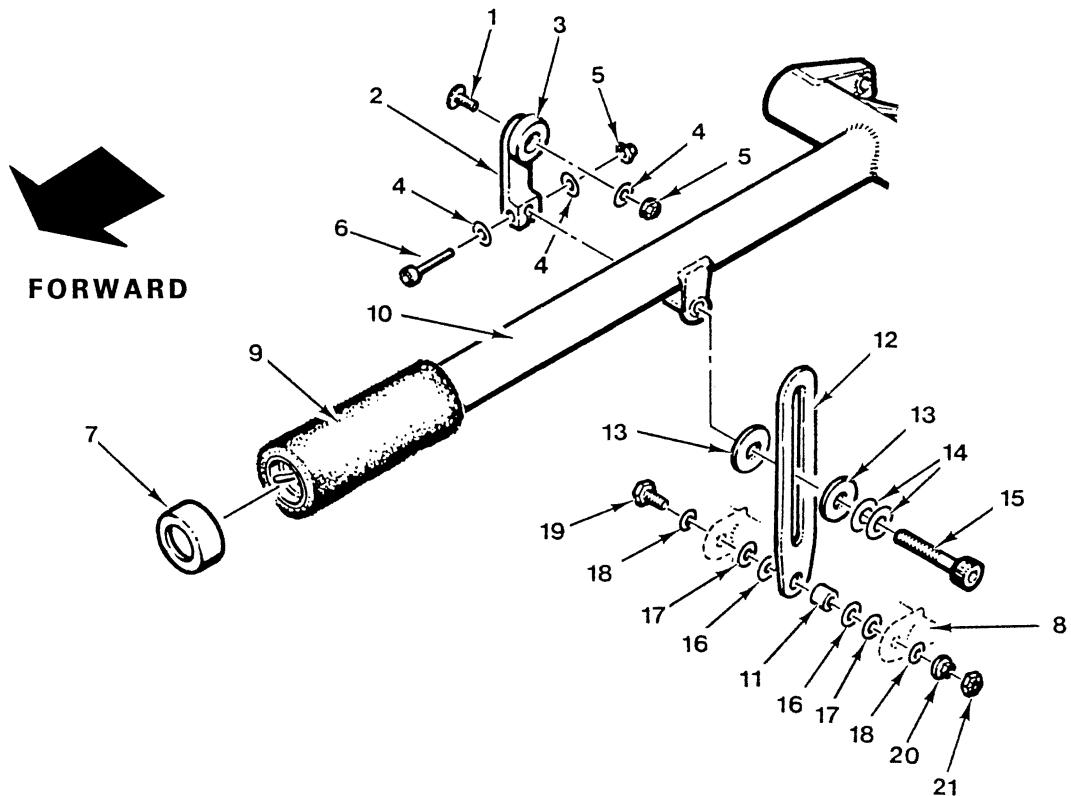

FIGURE 8-5 COLLECTIVE FRICTION ASSEMBLY
- a) Assemble A332-1 friction lever per Figure 8-5. The spring washers, item 14, should be assembled with their concave sides together. The two washers, item 13, are installed with the grey Teflon® coated surface against the A333-1 stop (item 12). The A332-1 lever is threaded onto the NAS1352-4-24P screw as the screw starts to protrude from the attachment fitting.
8.213 Pilot-Adjustable Collective Friction (see Figure 8-5)